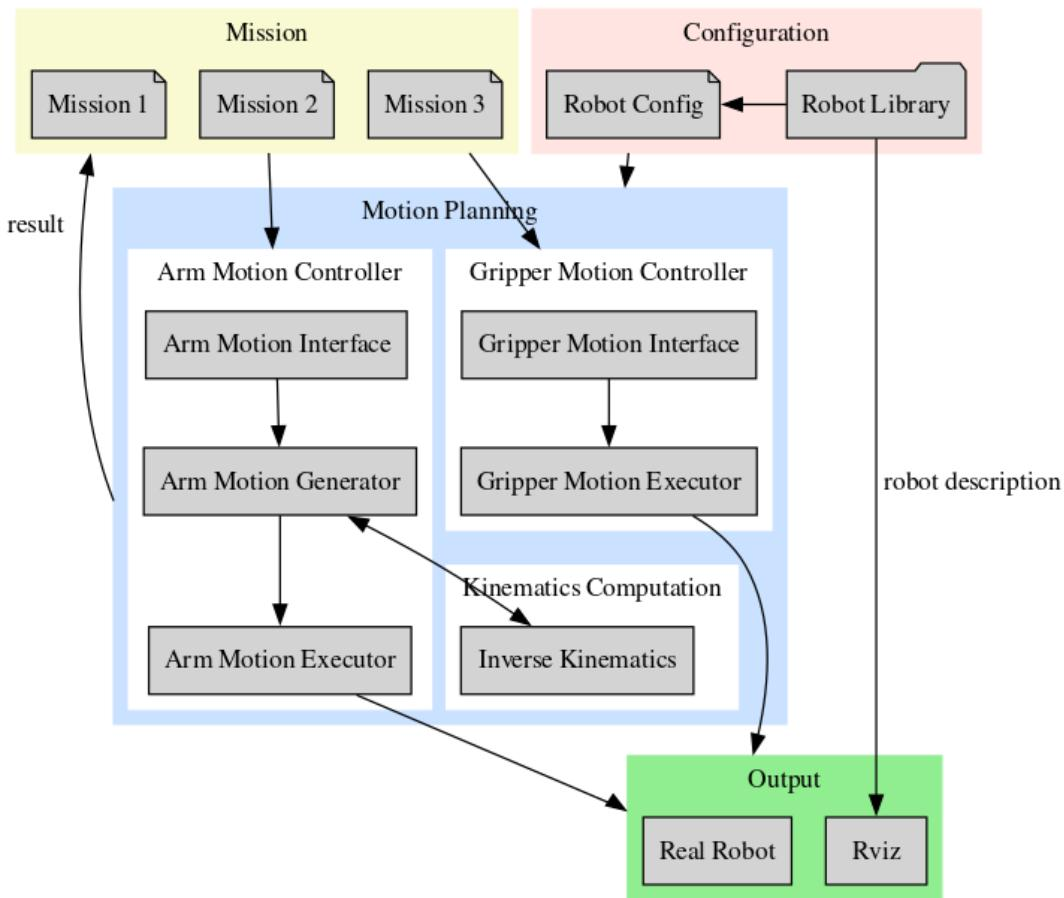

Figure 1: ROS 2 Controller System View
- The Robot Arm Controller enables high-level control of a robot arm via mission files, which calls modular interfaces that perform lower-level actions, showing in Figure 1